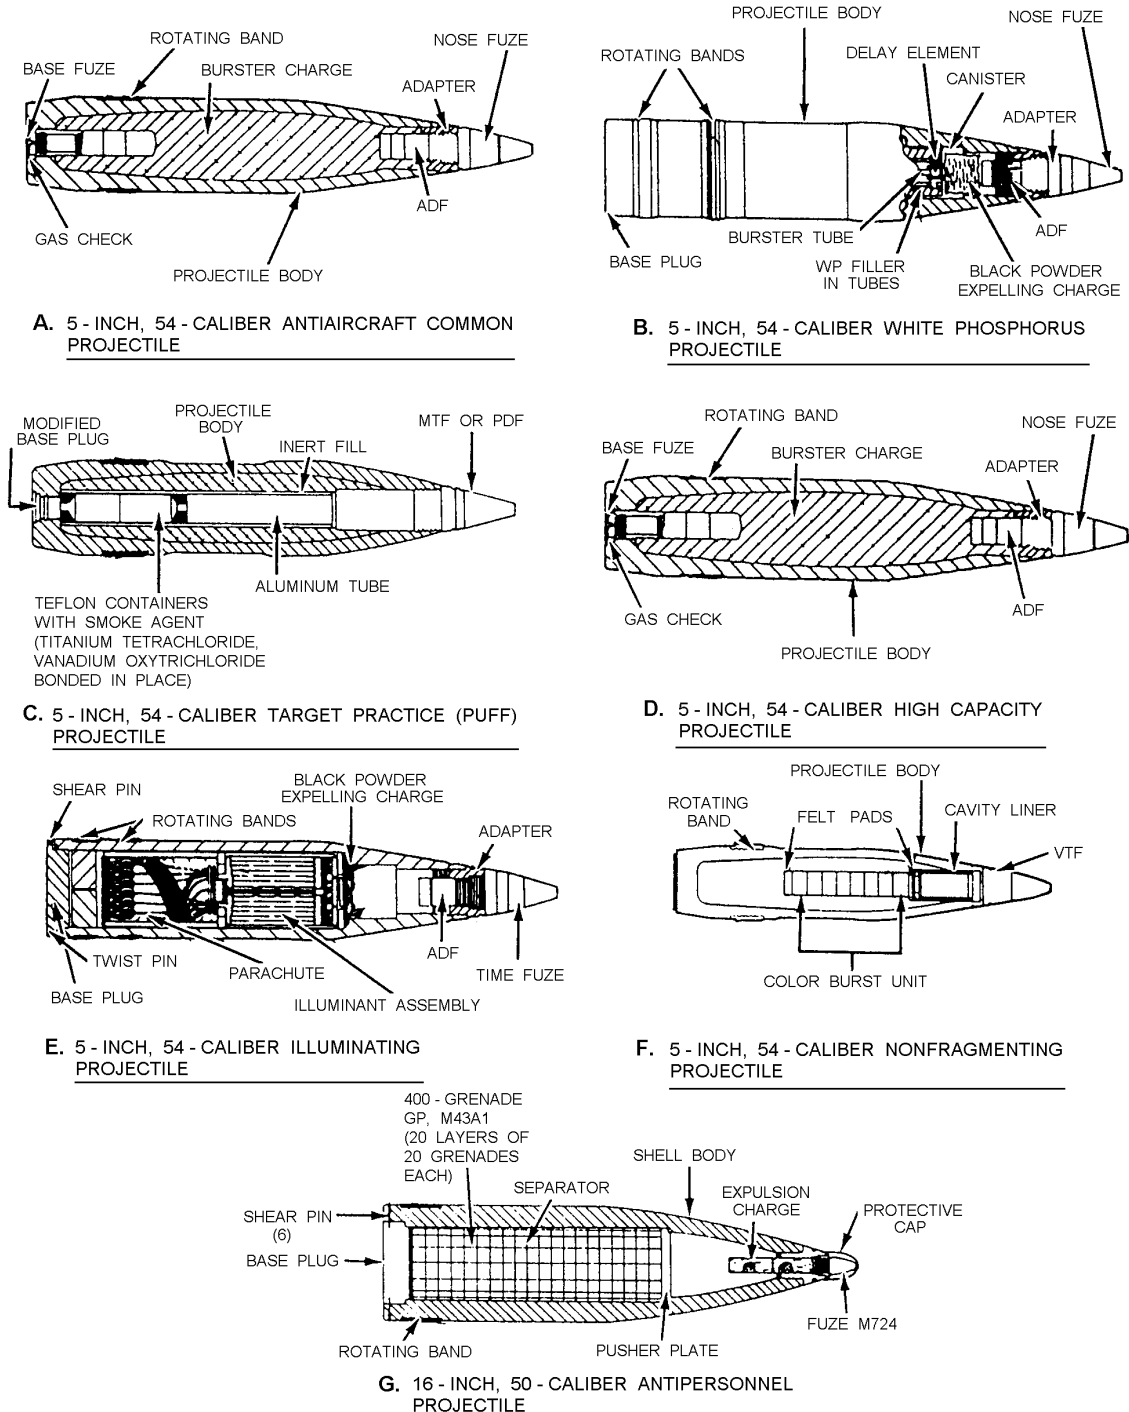

Figure 2-3.—Common projectile types.
Projectiles are also classified by their tactical purpose. The following are descriptions of the common projectile types (fig. 2-3).
ANTIAIRCRAFT COMMON (AAC).—AAC projectiles are dual-purpose projectiles combining most of the qualities of the AA type with the strength necessary to penetrate mild steel plate (fig. 2-3, view A). However, AAC projectiles do not have the penetrative ability of common (COM) projectiles. The type of fuzing will depend on the use. Fuze threads are provided in the nose and in the base. AAC projectiles are normally equipped with a mechanical time fuze (MTF) and an auxiliary detonating fuze (ADF).
CHEMICAL.—Chemical projectiles may be loaded with a toxic, harassing, or smoke-producing agent. Of the smoke agents, white phosphorous (WP) is the most frequently used. WP projectiles (fig. 2-3, view B) are designed to produce heavy smoke and, secondarily, an incendiary effect. The small WP containers are expelled and then scattered by a delayed action burster charge that is ignited by a black powder expelling charge. Other chemical loads are dispersed in a similar manner.
PUFF.—Puff projectiles (fig. 2-3, view C) are nonexplosive projectiles used as practice (spotting) rounds. They are designed to produce dense smoke clouds approximating those of high-explosive rounds.
HIGH CAPACITY (HC).—HC projectiles are designed for use against unarmored surface targets, shore installations, or personnel. They have a medium wall thickness and large explosive cavities. Large HC projectiles (fig. 2-3, view D) are provided with an auxiliary booster to supplement the booster charge in the nose of the main charge. With threads in both the nose and base, HC projectiles may receive a variety of fuzes or plugs to accomplish different tactical purposes. An adapter ring (or rings) is provided on the nose end of most HC projectiles to allow installation of PDFs or nose plug and ADFs with different size threads. An adapter is removed for larger fuzes. HC projectiles are normally shipped with a PDF installed in the nose. The base fuze that is shipped installed in the projectile may not be removed except at an ammunition depot.
ILLUMINATING (ILLUM).—ILLUM projectiles (fig. 2-3, view E) are made with thin walls. Each contains a time fuze, an ADF, a small black powder expelling charge behind the ADF, an assembly consisting of a pyrotechnic star or candle with a parachute, and a lightly held base plug. The time fuze serves to ignite the expelling charge. Explosion of the expelling charge forces out the base and the illuminating assembly and ignites the star or candle.
VARIABLE TIME-NONFRAGMENTING (VT-NONFRAG).—Some VT-NONFRAG projectiles (fig. 2-3, view F) are loaded to avoid rupturing the body and spreading fragments when the fuze functions. However, sometimes the projectile give breaks up into low-velocity fragments. They are designed for use in AA target practice, particularly against expensive drone targets, for observing the results of firing without
ANTIPERSONNEL.—The antipersonnel projectile (fig. 2-3, view G) consists of a projectile body, an expulsion charge, a pusher plate, a payload of 400 individually fuzed grenades, and a base plug. The M43A1 grenade is an airburst rebounding-type munition. The antipersonnel projectile is unique to the 16"/50 gun.